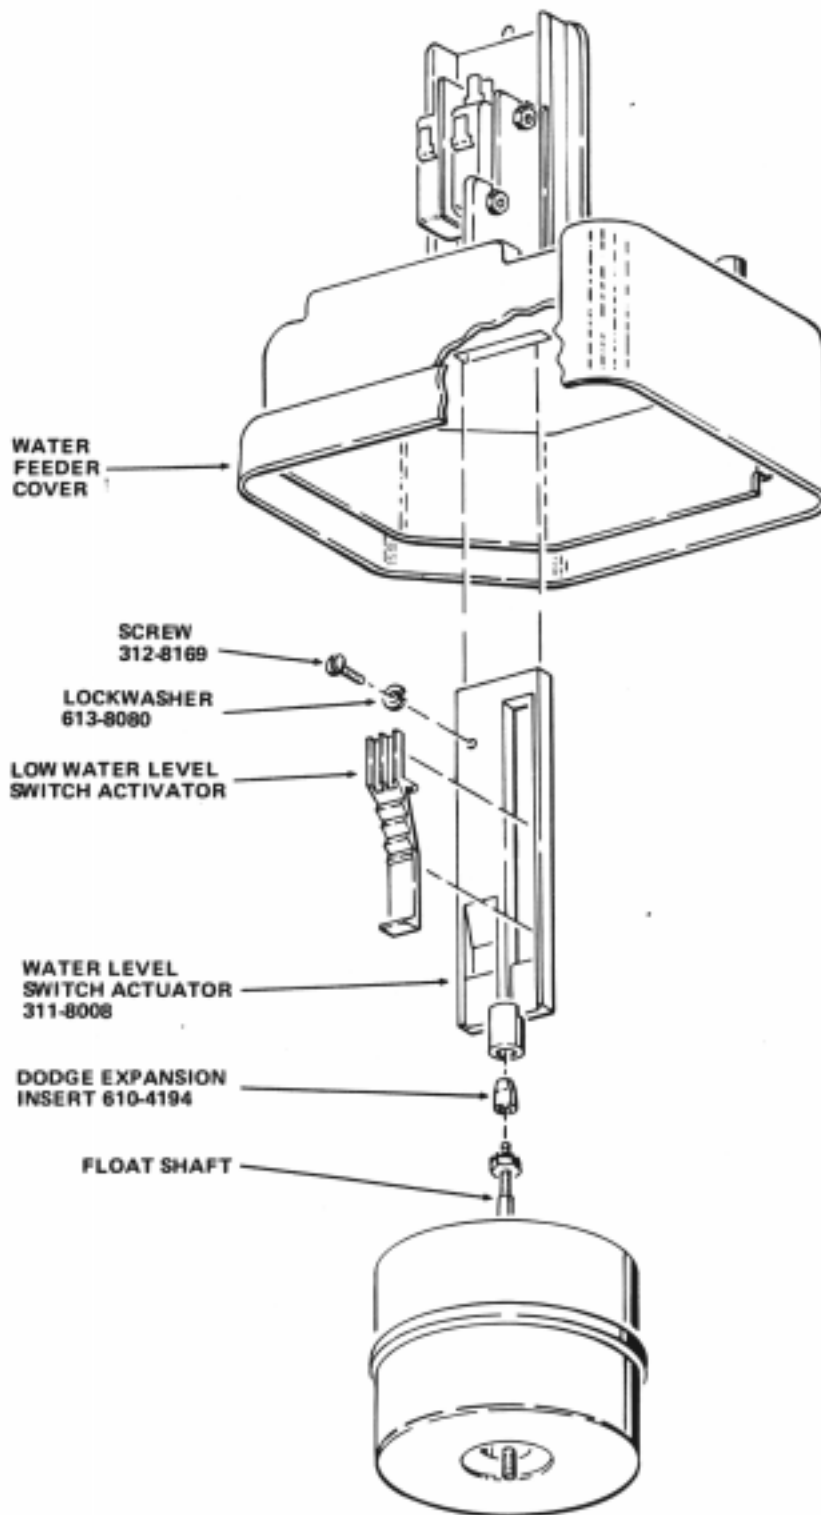

FIGURE 2
1. Install the Dodge Expansion Insert, part number 610-4194, in the bottom of the replacement Water Level Switch Actuator, part number 311-8008, pushing the Expansion Insert into the Actuator until the open end of the Expansion Insert is flush with the bottom of the Actuator. Both parts are included in the kit. See Figure 2.
2. Insert the replacement Water Level Switch Actuator through the opening in the bottom of the Water Feeder Cover. See Figure 2.
3. With the Water Level Switch Actuator inserted as far as it will go into the Water Feeder Cover, install the Screw, part number 312-8169, and the Lockwasher, part number 613-8080, in the hole in the Water Level Switch Actuator. See Figure 2.
4. Place the Low Water Level Switch Actuator in the long channel of the Water Level Switch Actuator. Position the Low Water Level Switch Actuator as shown in Figure 2 and insert from the top of the channel.
- a. Screw the Float Shaft as far as it will go into the Dodge Expansion Insert installed in Step B-1. See Figure 2.